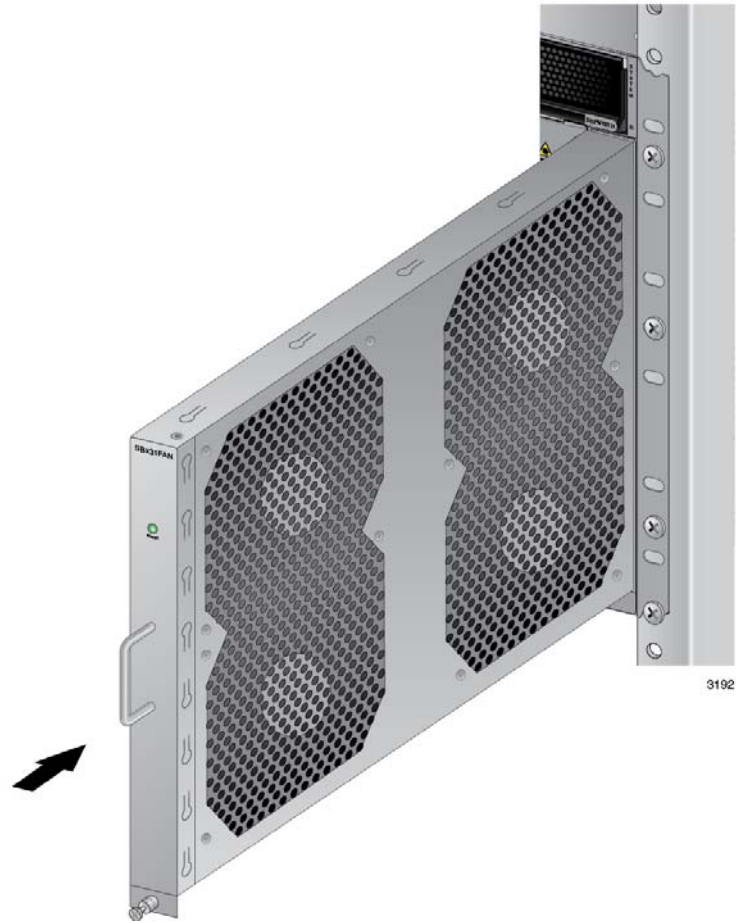

Figure 195. Installing a New AT-SBxFAN12 Fan Module
1. Orient the new module with the LED and module name on top and carefully slide the module into the chassis slot. Refer to Figure 195 on page 322.